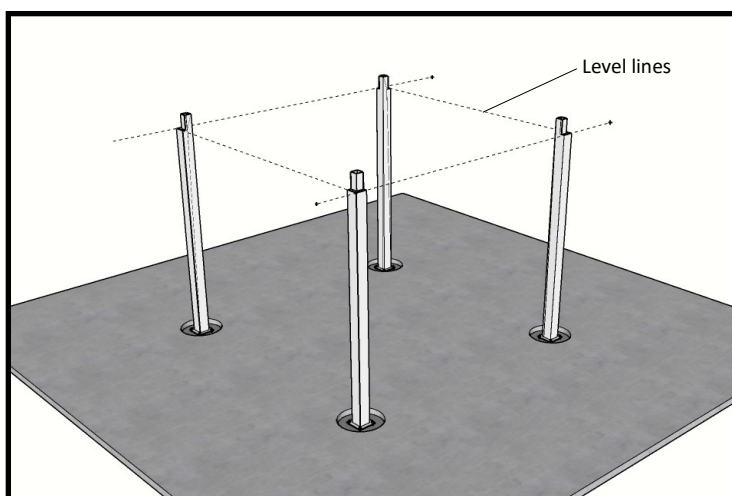

Fig 3
3. Once all post are in place, make sure they are plumb and the tops are level with each other. This is done by adjusting the nuts on the footer anchor bolts. (see fig 3)